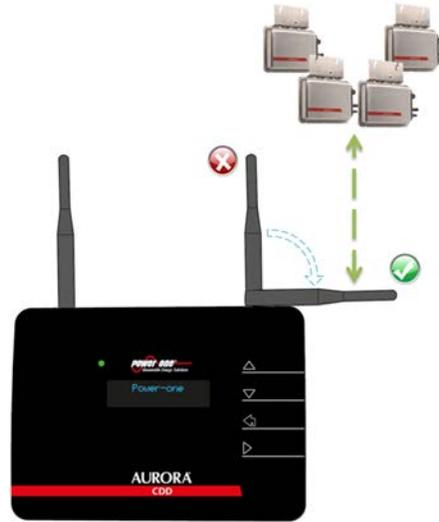

Figure 4-2 Correct orientation for CDD radio antenna, sideways to the AURORA MICRO inverters
1. If the radio antenna is pointed straight towards the AURORA MICROS (red X in Figure 4-2, below), turn it broadside (green ✓ mark in Figure 4-2).